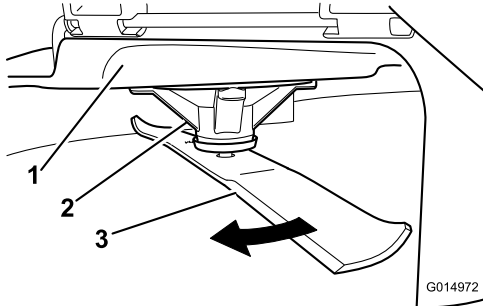

Figure 43
2. While wearing thickly padded gloves, or other adequate hand protection, slowly rotate the blade to be measured into a position that allows effective measurement of the distance between the cutting edge and the level surface the machine is on (Figure 43).